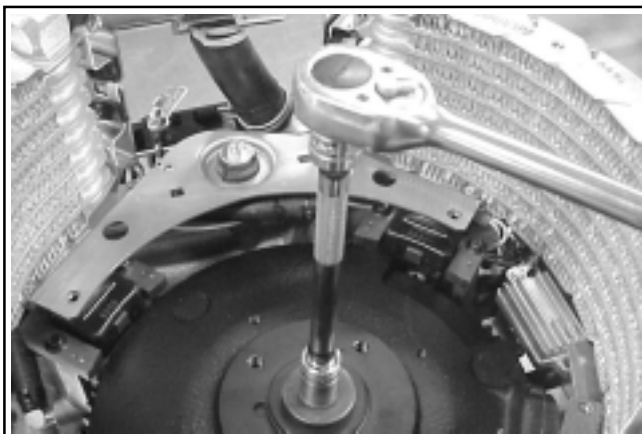

Figure 9-28. Loosening Flywheel.
- Use a flywheel holding tool (a suitable handle may be attached for convenience, refer to Section 2) to hold the flywheel and loosen the hex. flange screw securing the flywheel to the crankshaft. See Figure 9-28.